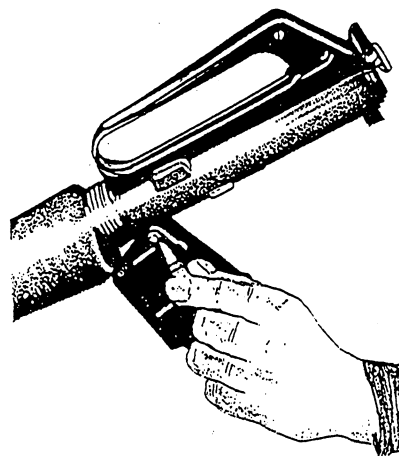
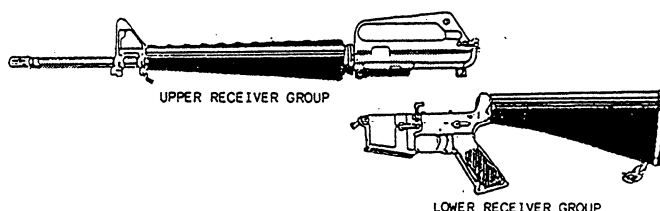

Figure 3-11.—Pressing out receiver pivot pin.
Figure 3-12.—Upper and lower receiver groups.
3. Press out the receiver pivot pin (fig. 3-11). Separate the upper and lower receiver groups (fig. 3-12), and place the lower receiver group on the table.